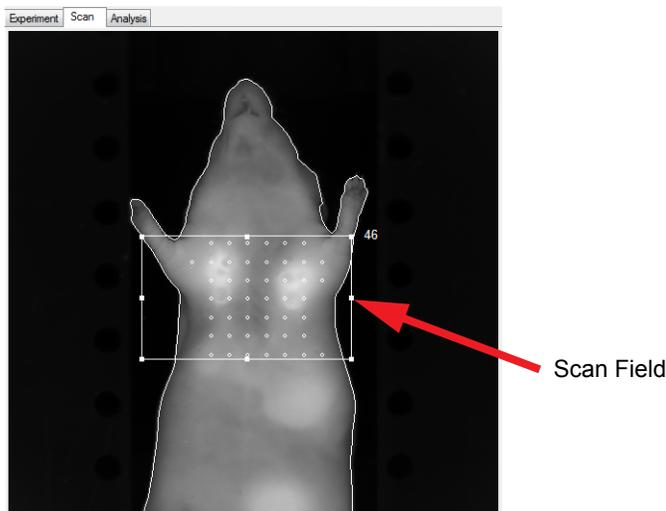

Figure 6-3. The **Scan** tab prior to initiating the laser scan
12. Click inside the **scan field** (see Figure 6-3) on the reflectance image and drag the scan field to the desired location. Note that as you move the scan field over the subject, the sides of the scan field automatically adjust to fall within the boundaries of the animal to avoid direct exposure of the detector to the laser.
- As the scan field size or location is adjusted, the number of source locations displays near the upper right corner of the scan field (see Figure 6-3).
If the **Add to Reconstruction Queue** option is selected prior to completing the scan (Figure 6-3), a full-resolution tomographic reconstruction is started as a background process when the scan completes. Otherwise, you can manually add a reconstruction to the queue at any time in the **Reconstruction Queue Manager**.